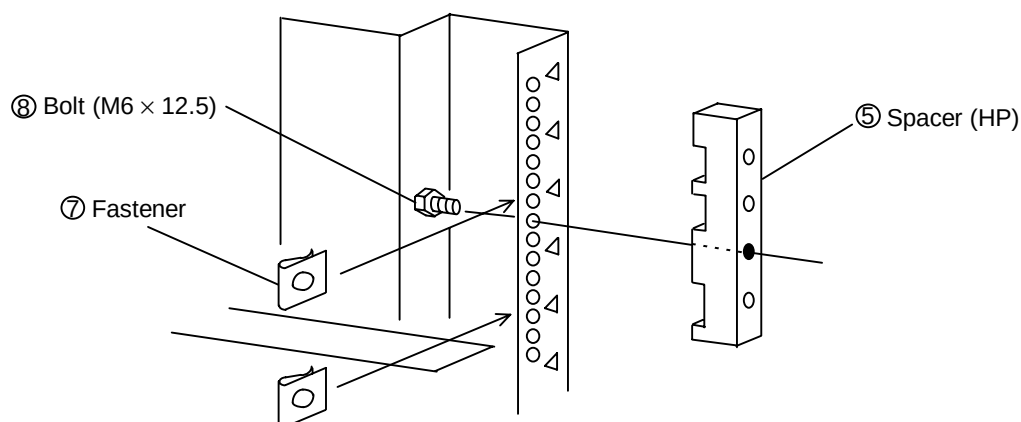

Figure 1.4.4 Installing the Spacer and Fasteners
1.4.4 Installing the spacer (See Figures 1.4.4 and 1.4.5.)